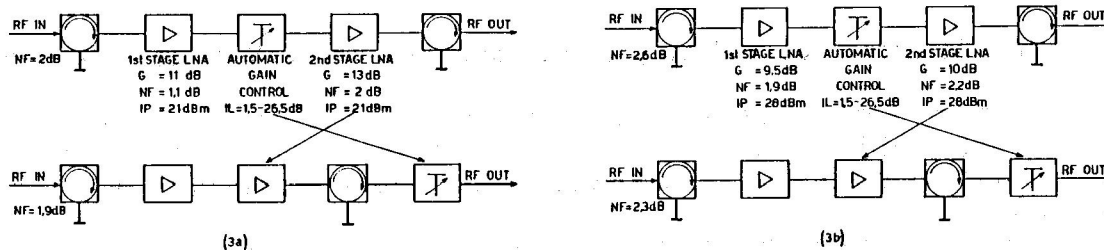

Fig. 3 - Preamplifier with AGC block diagram
0.3 micron gate length GaAs FET devices have been used obtaining a typical noise figure of the first stage of 1.1 dB at 6 GHz and 1.9 dB at 11 GHz. AGC microwave network can be placed in between the two FET stages, or after them according to the block diagram of figure 3 in which, for the two different frequency range of 6 and 11 GHz, gain and noise figure are given.